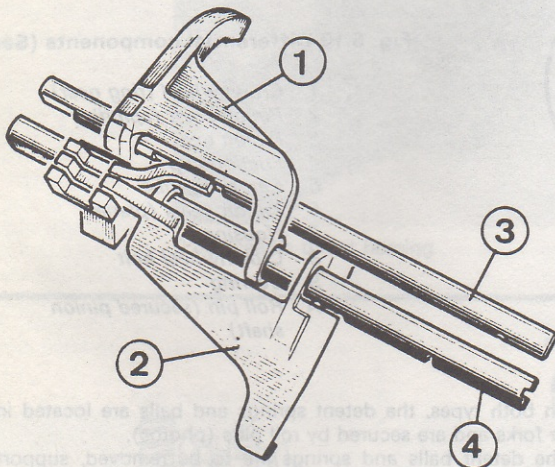
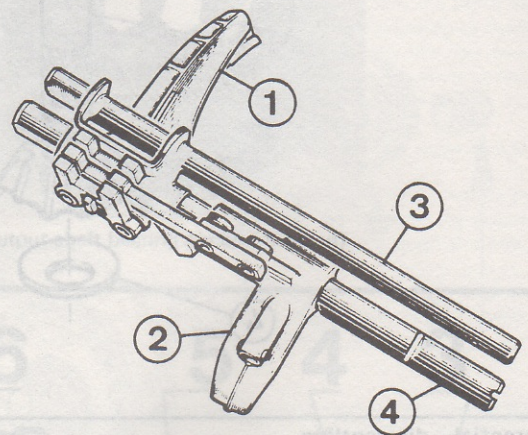

Fig. 6.11 Selector mechanism – early type (Sec 11)
Fig. 6.12 Selector mechanism – late type (Sec 11)
- 1 On early models the selector mechanism assembly is as shown in Fig. 6.11, whilst later models (from about April 1986 on) have the type shown in Fig. 6.12.